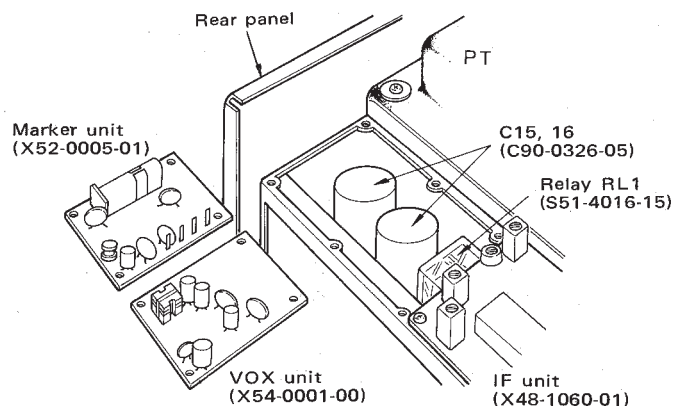
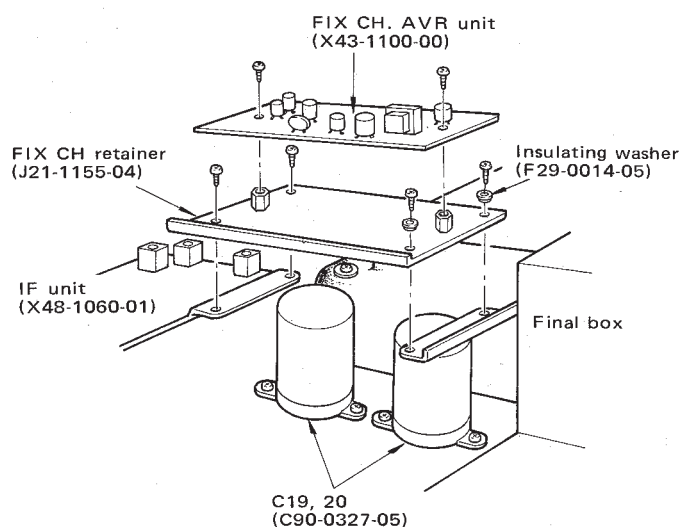

Fig. 10 Replacing RL1, C15 and C16
Fig. 11 Replacing C19, 20
RL1 is located below the VOX board, as shown in Figure 10, next to the power transformer. Remove the top cover of the transceiver and then remove the VOX board.
(Figure 11) C19 and C20 are reached by removing the TS-520S top cover and then the FIXCH·AVR board. C15 and C16 are reached by removing the transceiver's top case and then the MARKER and VOX board (Figure 10).
2. Remove the FIXED CHANNEL · AVR board as shown in Figure 11.